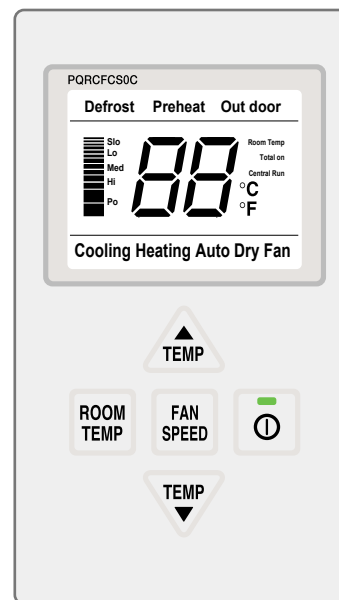

Figure 13: Typical Zone Controller
1. Figure 13 shows a typical zone controller. Your controller may be different. Choose a good location. Proper indoor unit operation depends on the location of the room sensor. A good location will protect the zone controller from direct sunlight and external local sources of water vapor, and heated or cooled air. If no mounting height was specified by the building designer, place the handy box approximately 55 inches above the finished floor.